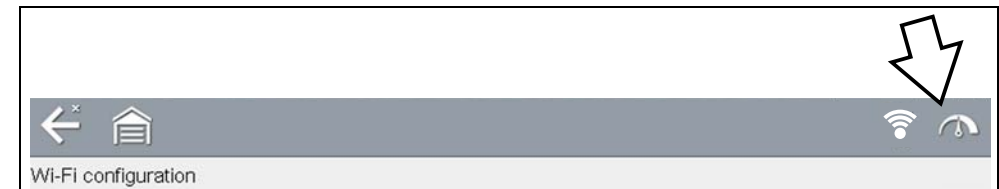

Figure 15-3 Wi-Fi Test Icon
3. From the Wi-Fi configuration screen, select the **Wi-Fi Test** icon to open the network connection test screen (Figure 15-3).